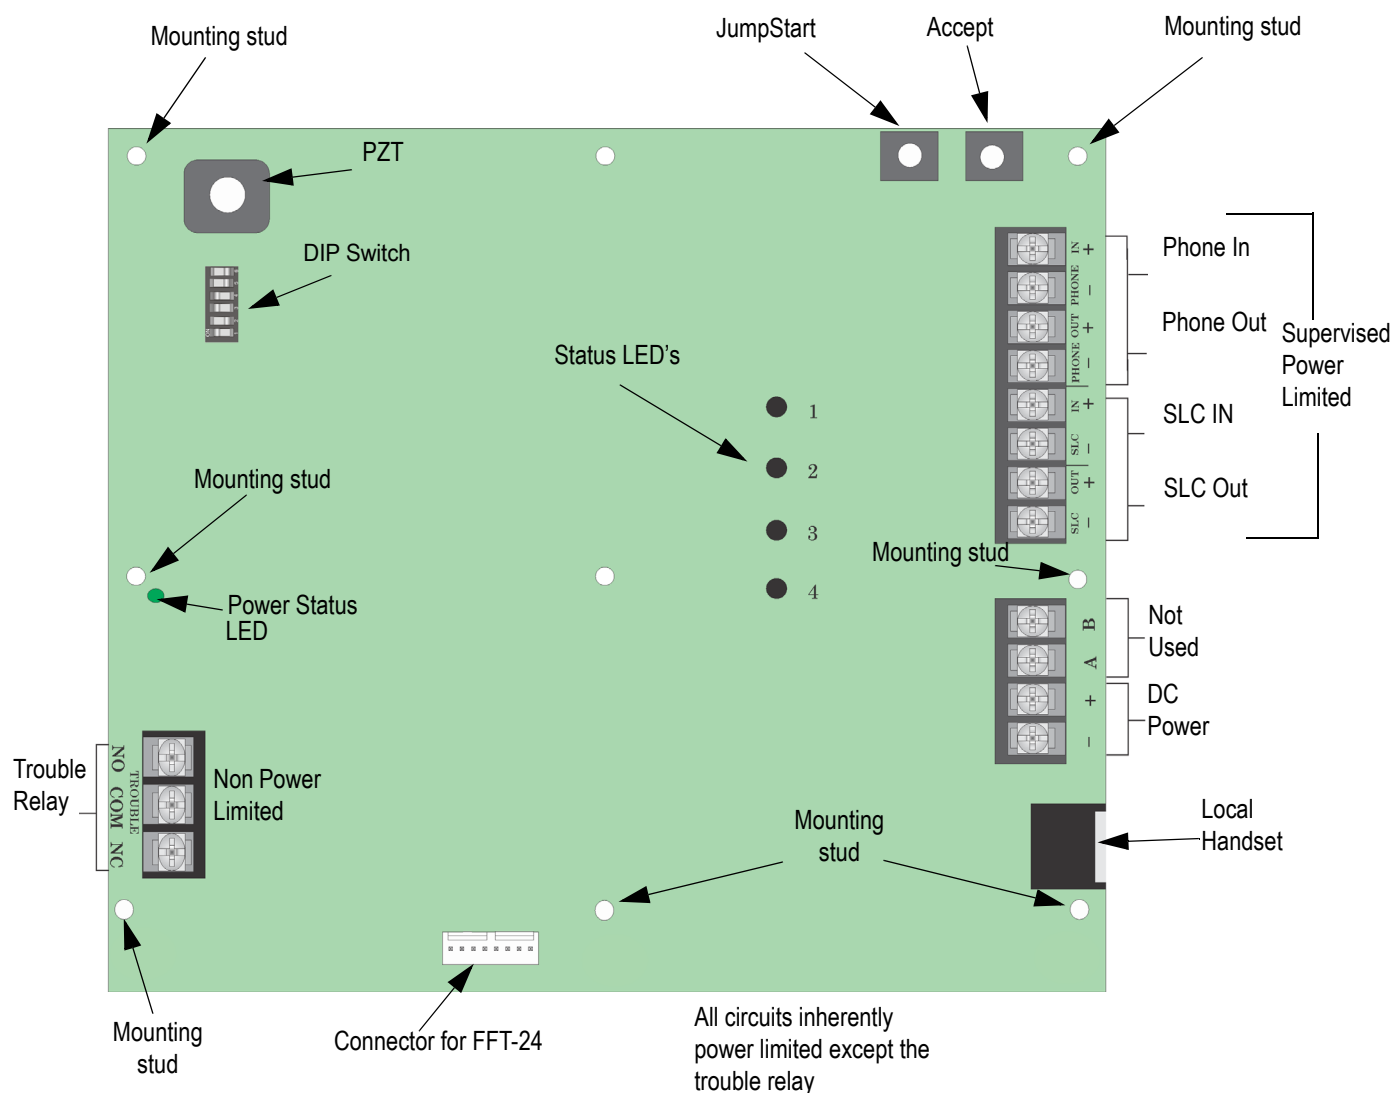

Figure 2-1 Back view of SK-FFT
Figure 2-1 shows the circuit board that attaches to the cabinet. If you should need to remove the board assembly for repair, remove the seven mounting nuts which hold the assembly in the cabinet. Then lift the control board out of the cabinet.
1. Refer to Figure 2-1 for location of the DIP switches on the SK-FFT board.